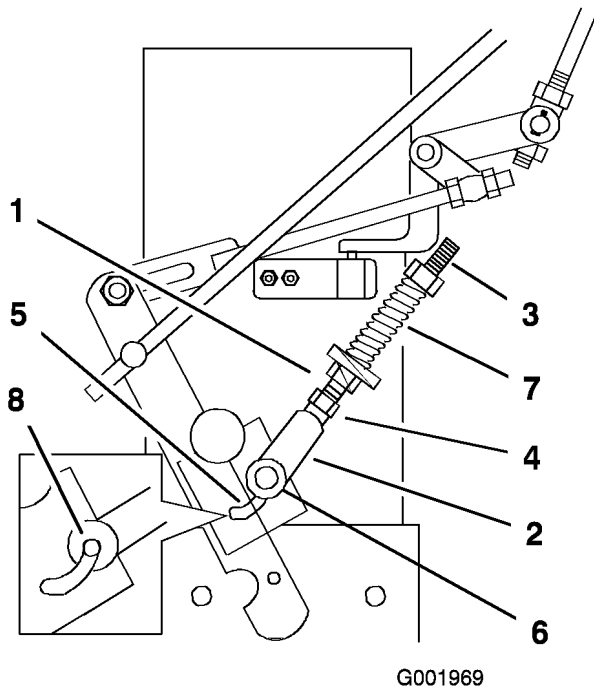

Figure 51
3. Adjust the left and right neutral stud until the clevis pin in the yoke touches the back end of the slot in the control arm (Figure 51).
6. If the wheel turns while holding the drive lever in neutral, the neutral stud needs to be adjusted (Figure 51). If wheel stops then go to .
7. Loosen the nut against the yoke (Figure 51).
8. Adjust the adjustment stud until the respective drive wheel stops while holding the drive in the neutral position (increased resistance) (Figure 51).
9. Turn the adjusting bolt approximately 1/4 turn clockwise if the wheel is turning in reverse or turn the bolt approximately 1/4 turn counter-clockwise if the wheel is turning forward (Figure 51).